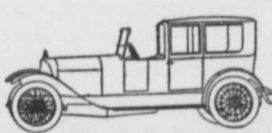

FIG. 4.
- FIG. 4.—An F. R. P.¹ Brougham. A car fit for a king and his queen. Price \$9,000, 5 passenger, 6 cylinder, 52 horsepower.